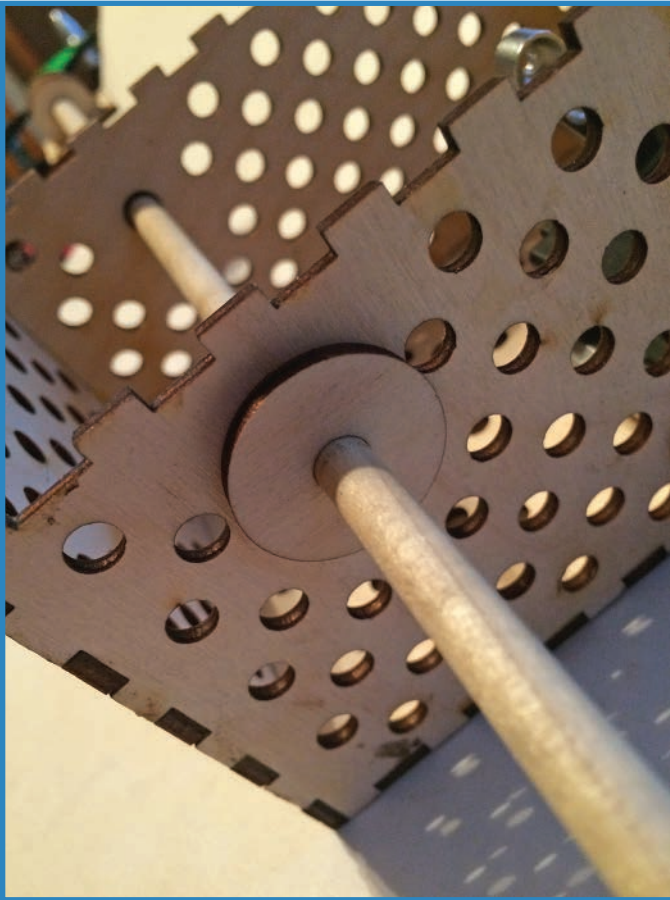

FIGURE 7.7 Use wooden washers to secure the dowel.
2. Add the axle. Slide it through the gondola so about six inches of dowel protrude from either side. Use wood glue to secure the wooden washers (part of the laser-cutter design) to the dowel. You can see how the washers should look in Figure 7.7.